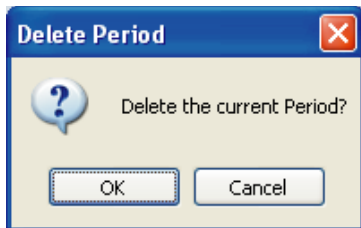
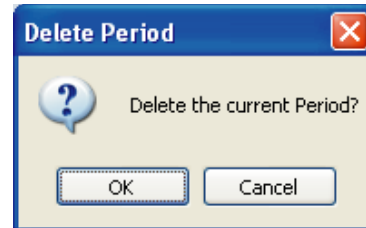

Fig.4-35
Fig.4-36
g. Delete key (See the ④ key in the figure) — select a Period and click the key, the current selected Weekly Timing setting period could be deleted. Click the key, window as Fig. 4-35 shows, click “OK” to delete Period. Successful delete the Period, message box as Fig. 4-36 will show.